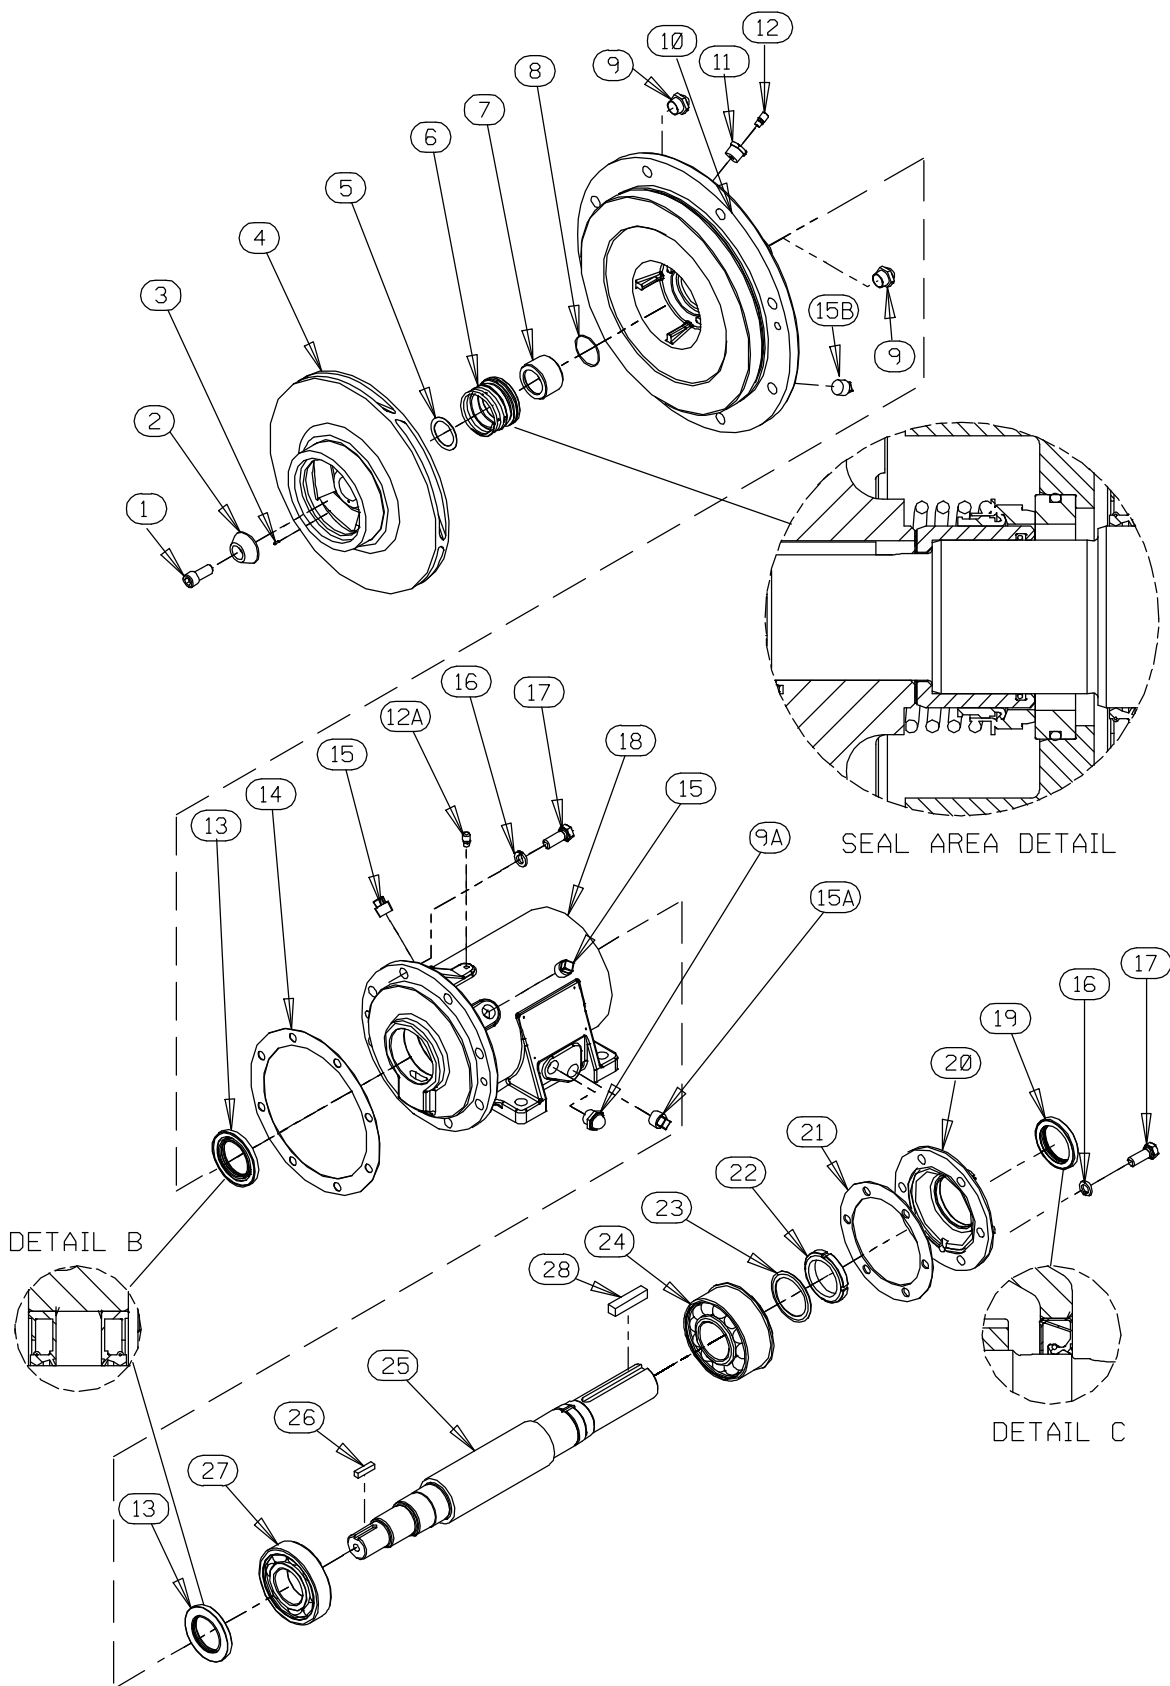

Figure 2. Repair Rotating Assembly
If the impeller (4, Figure 2) is to be removed, the impeller screw (1, Figure 2) must be removed before removing the pump casing (1). Insert a soft metal bar or rod through the discharge port and into the impeller vanes to block impeller rotation.
Use an impact wrench with a hex key to loosen the impeller capscrew, then remove the capscrew, washer (2, Figure 2) and roll pin (3, Figure 2). Remove the metal bar or rod blocking impeller rotation.
### (Figure 2)
(Figures 2 and 3)
Further disassembly requires separating the rotating assembly from the power source. Remove the coupling securing the rotating assembly to the power source and remove the key (26, Figure 2).
(Figure 2)